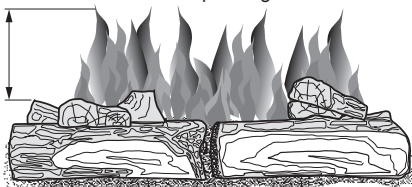

Figure 35 - Incorrect Burner Flame
Figure 34 shows a correct burner flame pattern. Figure 35 shows an incorrect burner flame pattern. If burner flame pattern is incorrect then:
2. Inspect burner, pilot and primary air inlet holes on injector for dust and dirt (see Figure 35).